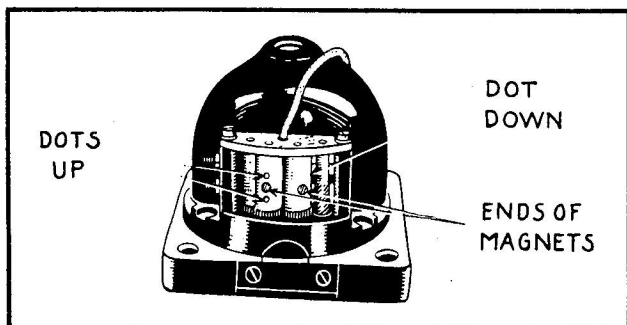

Figure 2-16. Positions of N-S Magnet Gear Assemblies
g. Reinstall the N-S gear assemblies (34 and 35) using care in meshing gears so that the magnets are parallel and the dots on gear (35) are up and the dot on gear (34) is down. (See figure 2-16.)